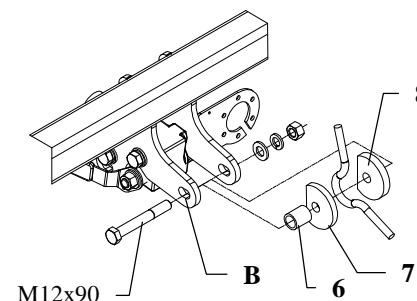

Fig. 3. Rear view
5. Through hole (pos. B) of the towbar fix with original towing eye – use truncate washers (pos. 7 and 8), distance sleeve  $\varnothing 21\text{mm}$ , L=25mm (pos. 6) and bolt M12x90mm (pos. 9) – see figure 3.
6. Fix body of the automat (pos. 18) and the socket plate (pos. 3) using bolts M12x25mm (pos. 10) from accessories. Place tow-ball (pos. 2) according to supplied instruction.